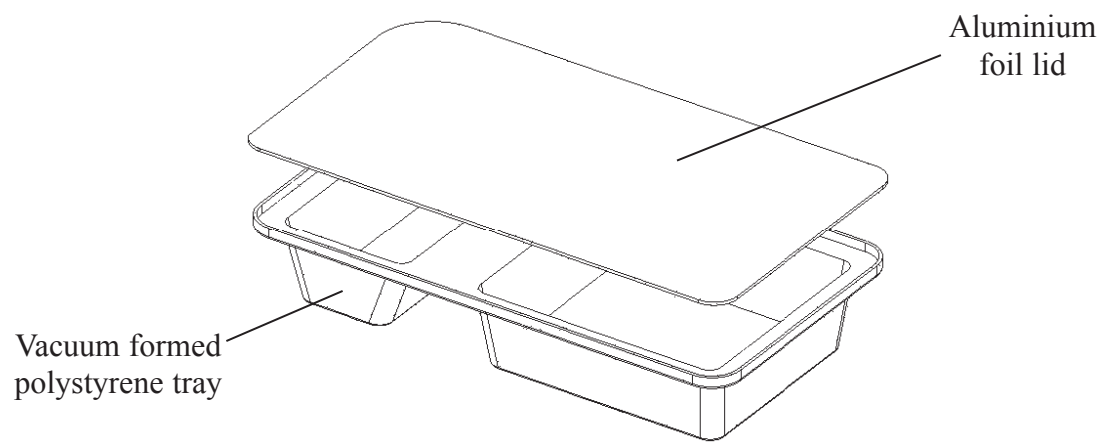

Figure 5
5. Figure 5 shows the components of a mass produced yoghurt pot.